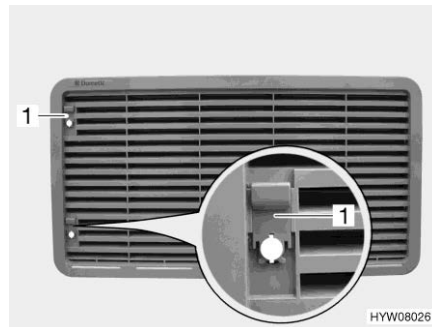

Fig. 183 Refrigerator ventilation grill
- Depending on version: Push up the sliding trap (Fig. 183,1) or turn the screw (Fig. 184,1) a quarter turn using a coin.